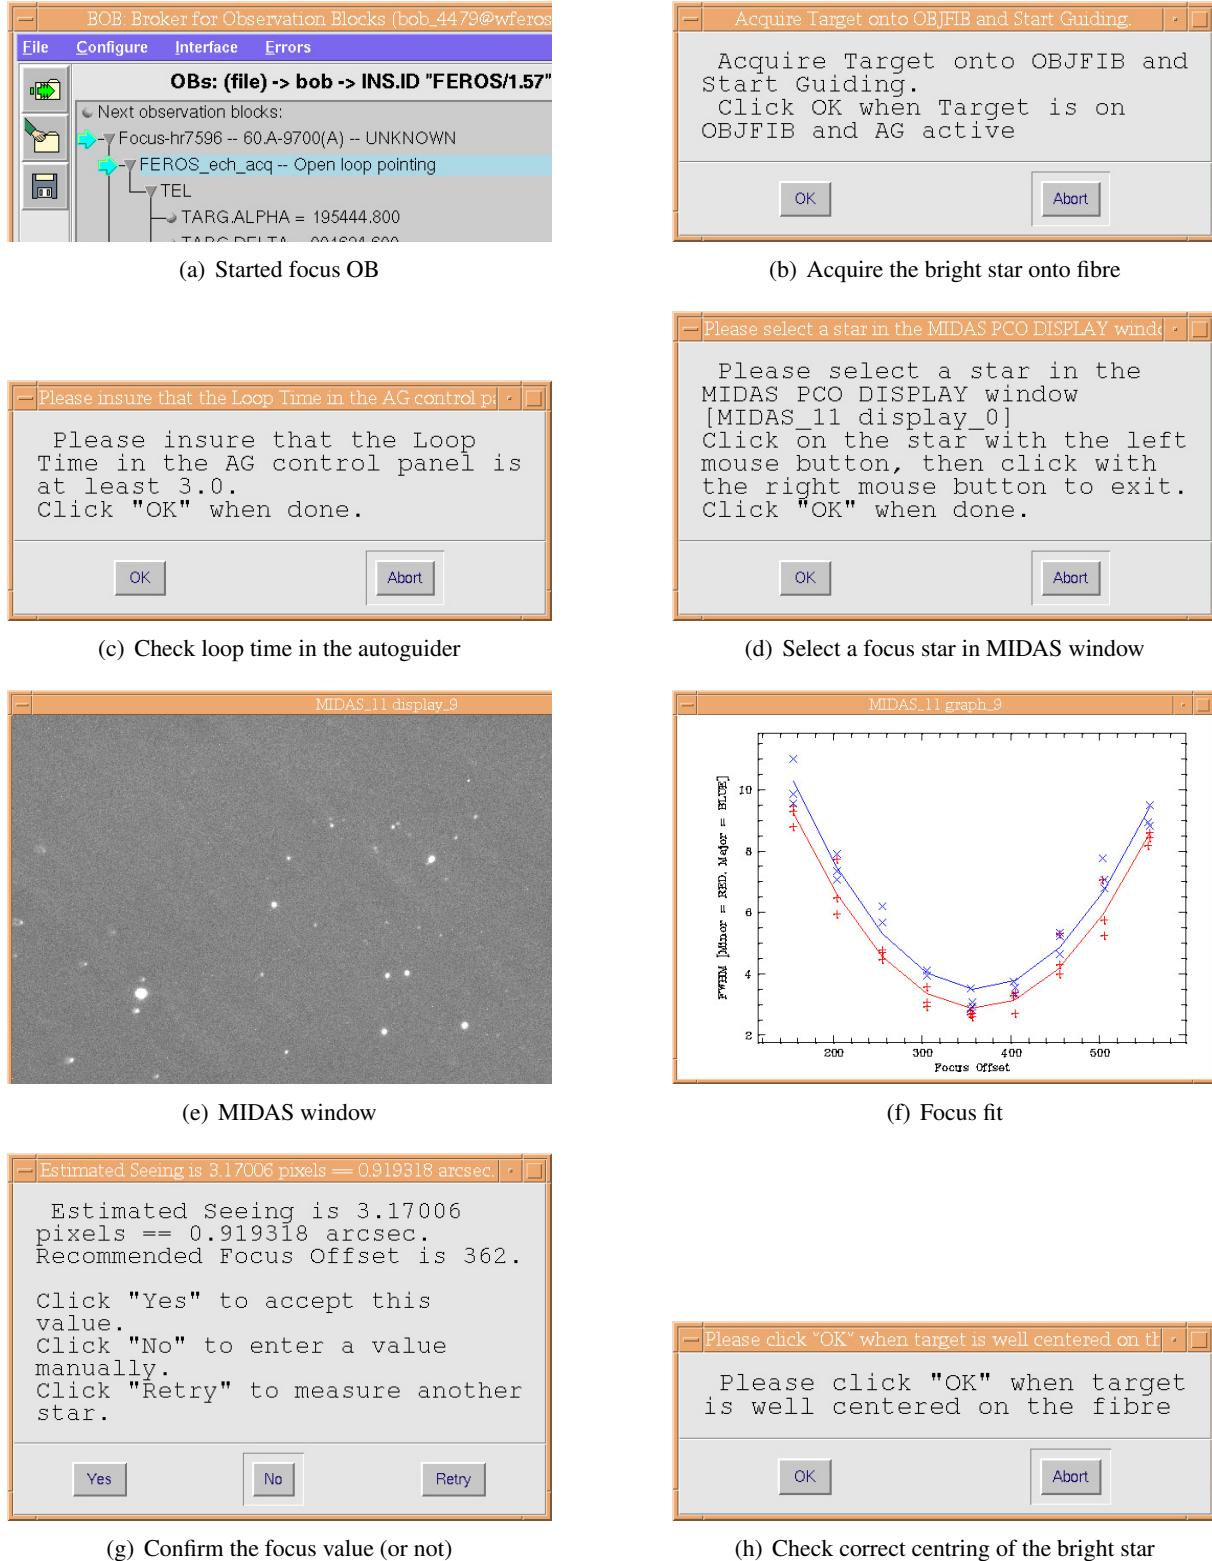

Figure 5.2: Focus with FEROS.
Focusing with **FEROS** takes about 5 minutes. It is summed up in Fig. 5.2, p. 50 and detailed in Procedure 5.7, p. 49.
- B5. Click **Start** (Fig. 5.2(a)).
- C4. Once guiding, click on popup asking for acquisition (Fig. 5.2(b)).
- D2. After about 30 s, click **OK** to pop-up asking to ensure loop time is more than 3 (Fig. 5.2(c))
- D4. Shortly after, a pop-up asks to select a star to **focus** on (Fig. 5.2(d))
- a. A **MIDAS** image appears, left and right-click on a non-saturated source (Fig. 5.2(e)).
- a. The white graph window should have points a two curves fitting them (Fig. 5.2(f))
- b. A pop-up appears asking action to take about focus fit (Fig. 5.2(g))